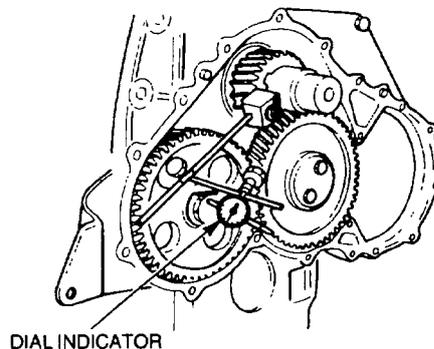

Figure 16 Checking the Timing Gear Backlash
- (2) **Crankshaft, Idle and Camshaft Gear Backlash.** Measure the backlash between the crankshaft, idle and camshaft gears using a dial indicator (Figure 16) and check that it is within the standard limits of 0.10 to 0.3 mm (0.004 to 0.012 in).